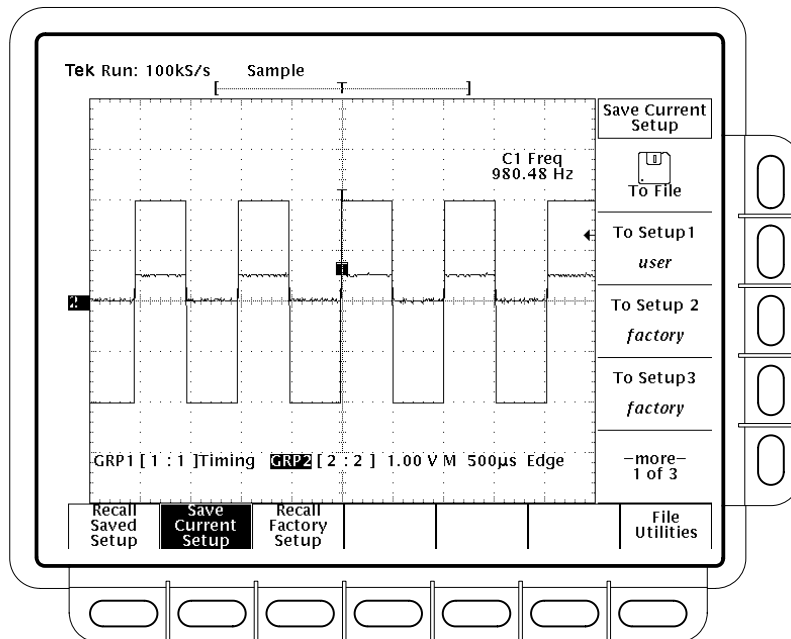

Figure 1-21: Save/Recall Setup Menu
6. Press Save/Recall **SETUP** → **Save Current Setup** (main) to display the Setup main menu. (See Figure 1-21.)